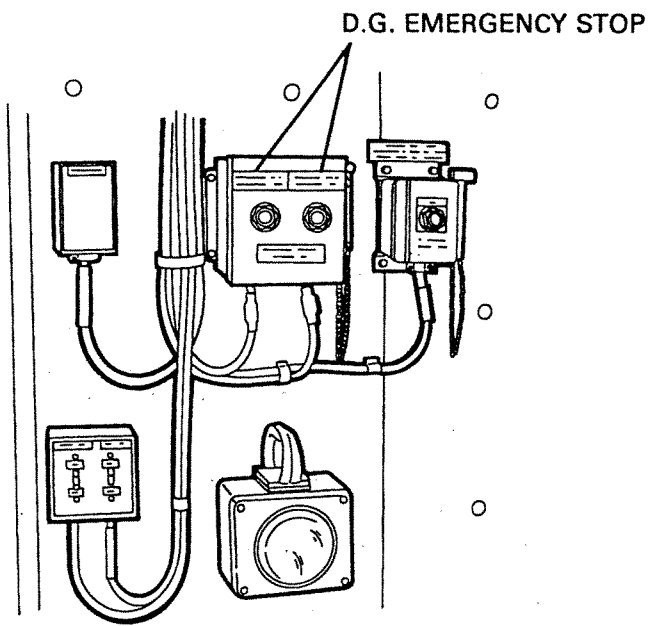

Figure 4-19. Diesel Generator Engine Emergency Stop — Mess/Lounge (Frame 13-1/2, Port Side of Exit Door)
2. Mess Lounge — Break glass and push button port side of exit door to shelter deck area (Figure 4-19).